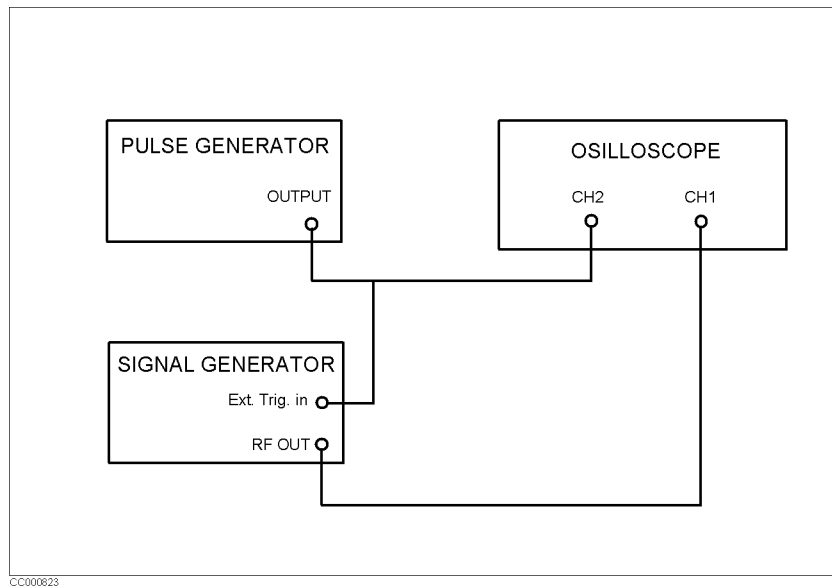

Figure 8-23. Time Domain Measurement Configuration
1. Connect the target signal and the trigger signal to the input port of an oscilloscope (see Figure 8-23).